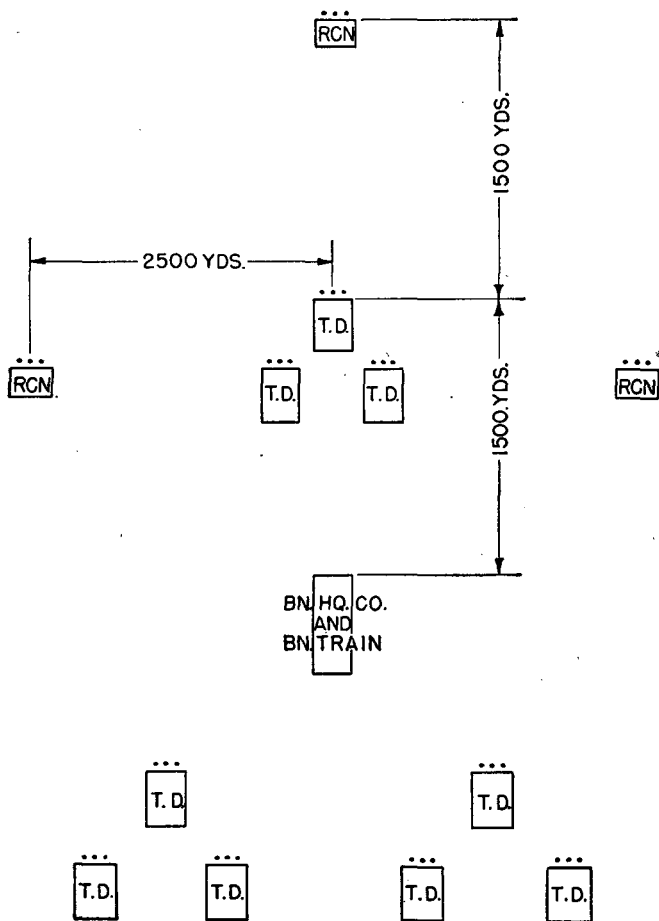

FIGURE 40.—Battalion operating alone (not to scale).
(2) For details of drill for medical detachment see FM 8-5.
i. Tank destroyer battalion.—A formation for a tank destroyer battalion operating alone is shown in figure 40.